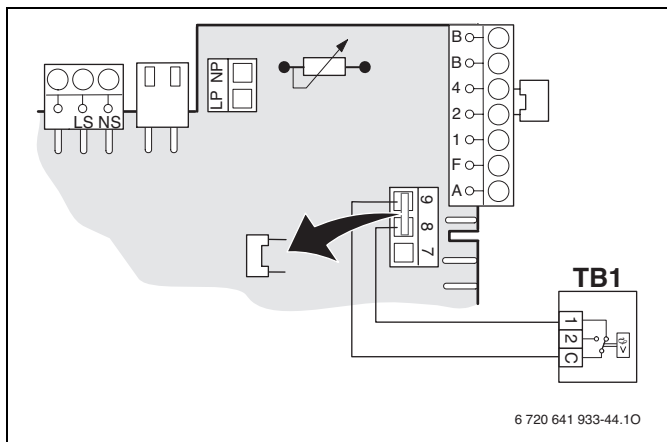

Fig. 40 Electrical wiring TB1
- ▶ Connect the leads labeled SWITCH CONTACT (yellow) to the TB1 temperature guard (→ Fig 40, page 54) on the Heatronic.